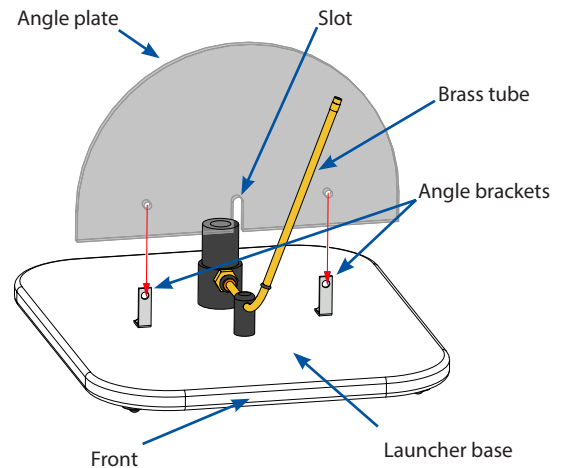

Figure 1
1. Locate the angle plate and slip the slot in the plate over the brass tube on the launcher base. Be sure the angle markings are visible from the front of the launcher and that the angle plate is on the front side of the two angle brackets of the launcher base (Figure 1).